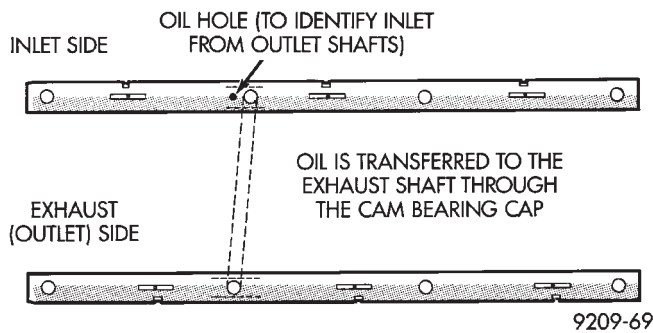

Fig. 7 Rocker Arm Shaft Identification
side has a 3mm diameter oil passage hole from the cylinder head. The **exhaust side does not** have this oil passage (Fig. 7).
(1) Check the rocker arm mounting portion of the shafts for wear or damage. Replace if heavily damaged or worn.
(2) Check oil holes for clogging with small wire, clean as required (Fig. 7).